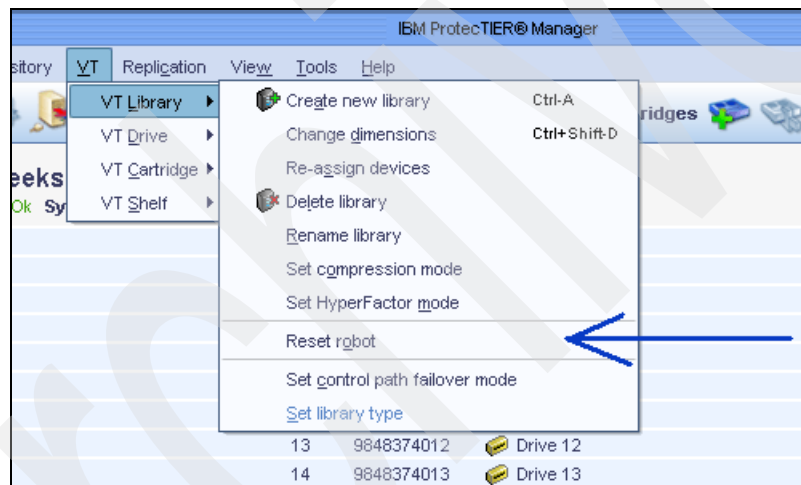

Figure 8-38 ProtecTIER Manager “Resetting virtual robots”
2. Select **VT** → **VT Library** → **Reset robot** (see Figure 8-38). A confirmation message dialog box is displayed: